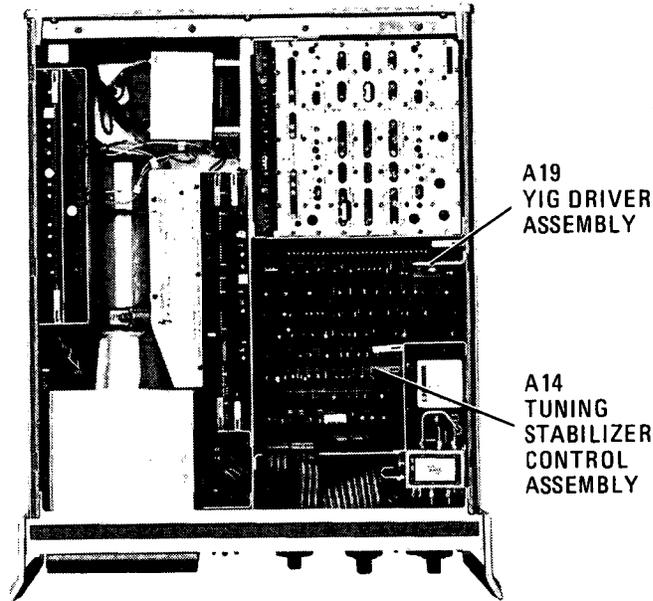

Figure 5-30. YIG Driver Adjustment Locations
6. Adjust A19R5 YTO OFFSET (Figure 5-30) for a frequency counter reading of  $2.050 \pm 0.0002$  GHz.